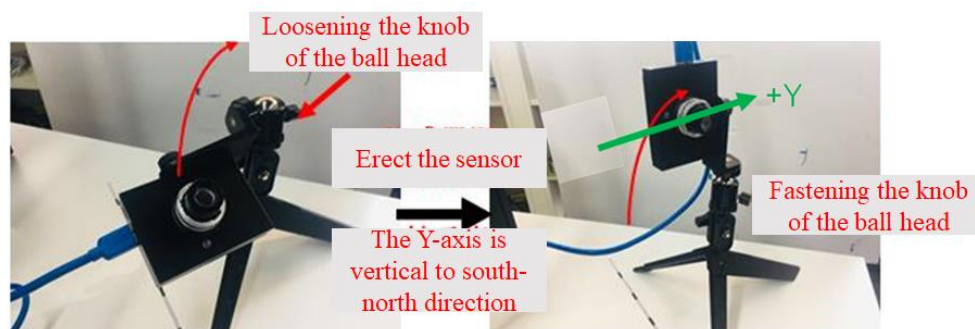

Fig 2-5
- viii. When No. = 25, the orientation should be adjusted by a large margin again as Fig 2-5 shown where Y-axis is vertical to the south-north direction.